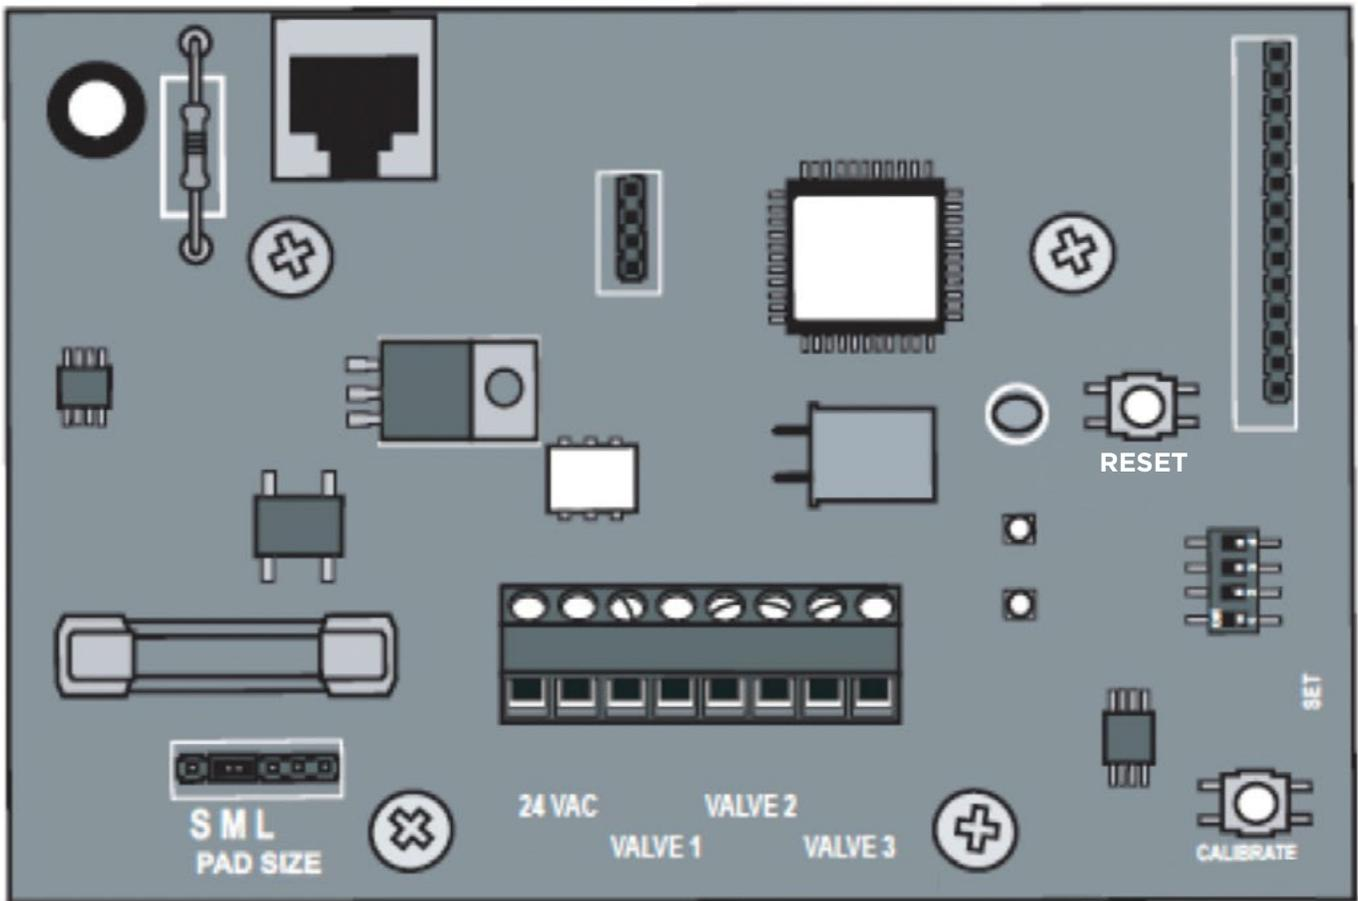

Figure 1
Attach the low voltage, 24-volt ac, secondary output terminals from the transformer to the terminals marked 24 Vac on the MPR terminal block. See Figure 1.
Connect the 24-volt AC solenoid valve to the MPR. (See Figure 1, page 8) Connect a 24-volt power supply to the MPR. Observe the red power light blinking on and off at a 1 second rate. This will verify that the unit is powered on. If the unit’s red power light is not blinking, verify correct voltage (24) at the units’ terminal block connection points marked 24 volts AC. (If correct voltage is present and connections are tight but the red power light is not blinking, contact the factory for further instructions.) Press the calibration button and hold it on for 2 seconds, then release, and the red power light should blink rapidly. Press the button once more and the system water supply valve will open and the red power light will blink off, then on for 1 second. Adjust the water flow to the water distribution perforated “sock” by opening or closing the flow adjustment ball valve located between the MPR and the water distribution “sock”. With the top access panel off the cell, adjust the valve such that the water column heights in the water distribution “sock” holes are between 1/2” to 3/4” as illustrated at the top of page 11. Press the calibration button once more and the system water supply solenoid valve will close. Reinstall the half moon PVC water distribution cover and ABS top case cover and brass thumb screws.